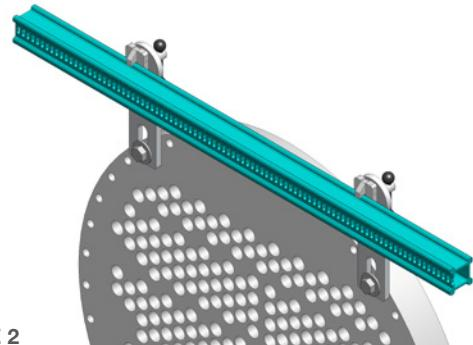

FIGURE 2
2. Insert the **Top Rail (slots facing out)** into the upper mounting brackets. If the rail is not closely aligned with the tube rows, loosen one of the upper mounting brackets and adjust until the top rail is parallel with the horizontal tube rows. Tighten the clamps securing the rail to the mounting brackets. Ensure upper mounting brackets are securely clamped or bolted to the tube bundle flange. (**Figure 2**)